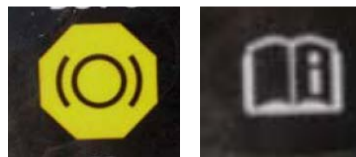

Figure 1: ISO Brake Fluid Cap Symbol and Owner's Manual Reference Symbol
3.1.1.2.2 DOT 3 Cap (except for North America) and DOT 4 Cap shall have ISO 9128 symbol (see Figure 1), owner's manual reference (see Figure 1), and "DOT 3" or "DOT 4" (depending on fluid used) brake fluid callout on the base surface of the cap. The cap shall be black (598F Anthracite), with Grain = GMGF 002 Rio, and Gloss = PGH. The ISO 9128 symbol shall be yellow (Pantone 116 or equivalent as per GMW14089) and the lettering shall be white as per the underhood appearance Notice of Action. The ISO brake symbol is required by United Nations (UN) Regulation 13 H (UN R13H) and shall be 20 mm x 20 mm in size. The owner's manual symbol shall be 6 mm x 8 mm in size. The DOT lettering shall be 5 mm in height. Reference GMW14089. Label/paint performance shall be in accordance with GMW14573.
3.1.1.2.3 DOT 3 Cap for North America shall have the FMVSS 105 and FMVSS 135 (CMVSS 105 and CMVSS 135) wording and ISO symbol. The letters must be at least 3.2 mm (1/8 in) high. The lettering shall be white in color, and the ISO symbol shall be yellow as shown in Figure 1. The ISO symbol shall be 15 mm x 15 mm in size.